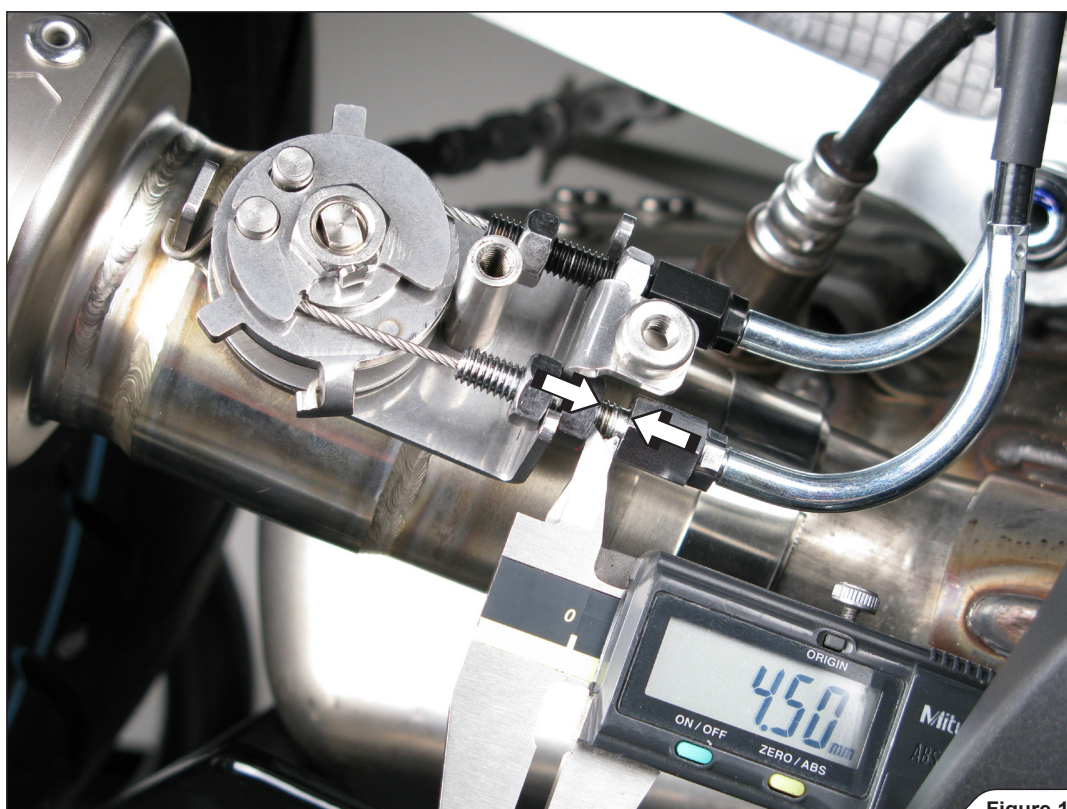

Figure 10
2. Slide the muffler onto the stock outlet and correctly attach the cables onto the cable bracket (the cable with black adjuster must be on top!). Adjust the lower adjuster as shown - 4.5mm between adjuster nuts (Figure 10).